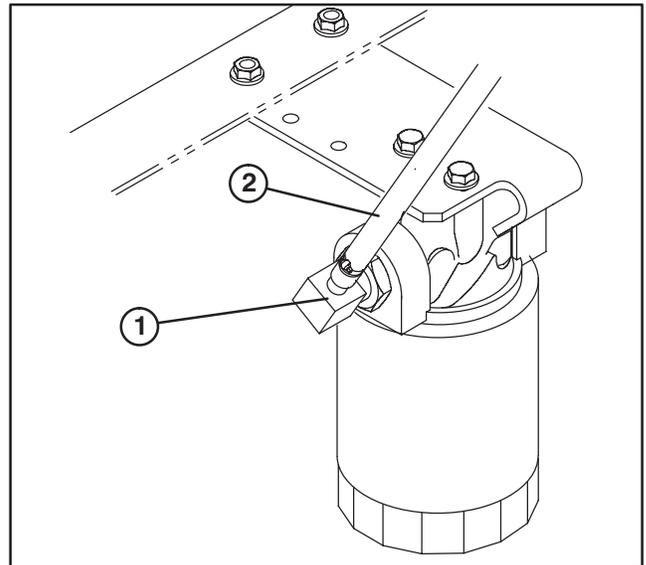

Figure 17
30. Loosen hose clamp securing other end of hydraulic hose to “IN” port fitting of hydraulic filter (Fig. 17). Remove hose from fitting. Cut off approximately 13–1/2 inches from end of hose and reconnect to filter with hose clamp.